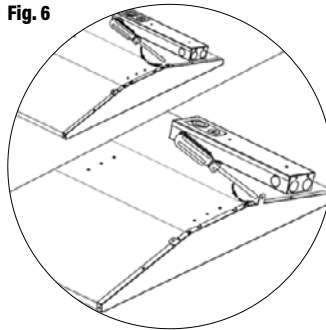

Fig. 7
3. Install v-hooks and chain. (Fig. 7)